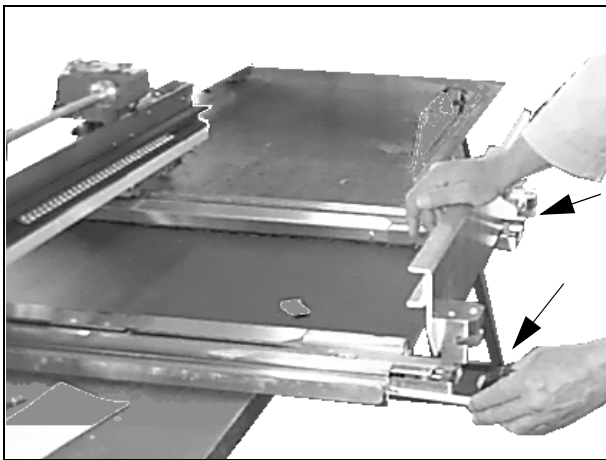

Fig. 14
- Measure the distances to the guides on either side to ensure that the transverse carriage is not tilted (y/Fig.14). The measurements should be equal.